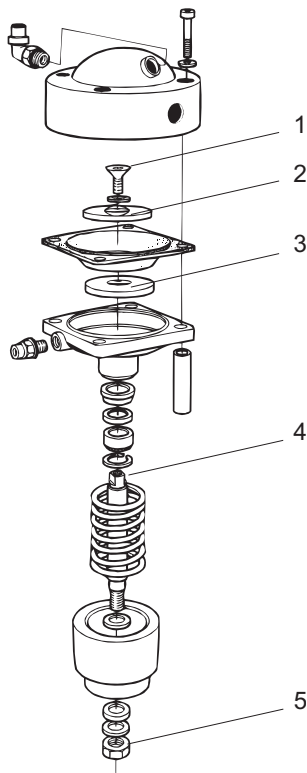

Figure 13
13:3 During reassembly check that the sealing rings (2,3) are not damaged. The washer with the O-ring chamfer (2) must be installed above the diaphragm, see *figure 13*. When tightening the allen screw, use the flats on the cylinder rod (4) to stop rotation.